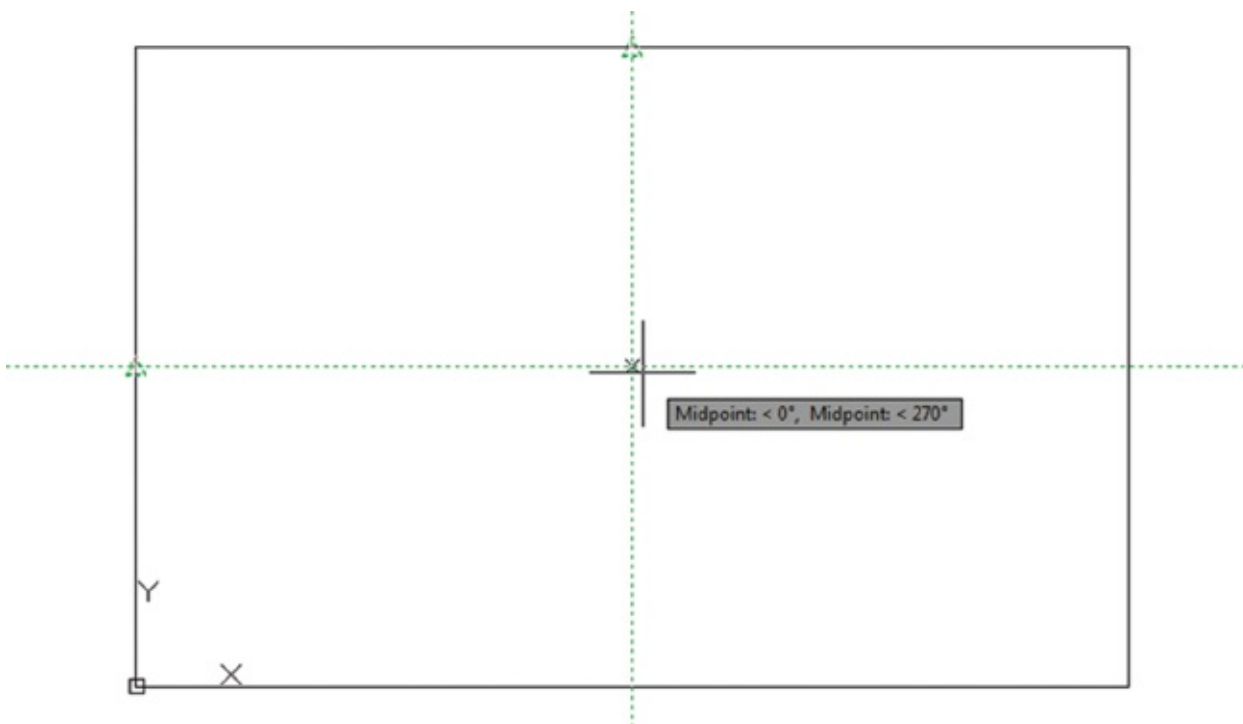

FIGURE 3.21 The vertical and horizontal dotted lines appear simultaneously.
6. Move the cursor to the center of the rectangle. The two dotted lines appear simultaneously and a small *X* appears at their intersection (see Figure 3.21).